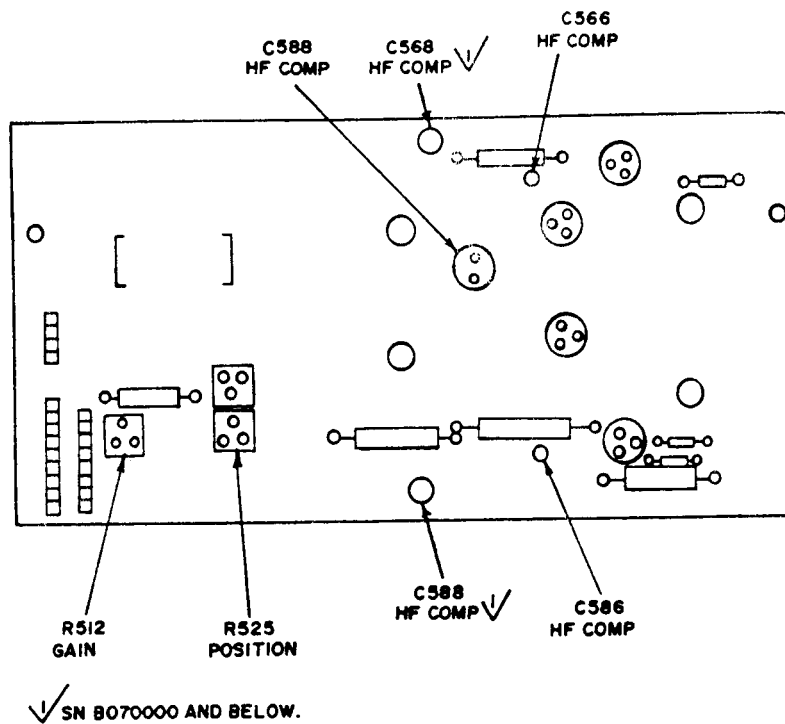

Figure 2. Board A6 horizontal amplifier adjustments - top rear view.
(1) Adjust R512 GAIN (fig. 2) for 8 divisions of deflection between the 2d and 10th vertical graticule lines (R).
(2) Adjust R525 POSITION (fig. 2) to position trace on center graticule line (R).
(1) Adjust C588 HF COMP (fig. 2), (Types 7623 and 7613/R7613, SN B070000 and above) C568 HF COMP and C588 HF COMP (7613/R7613, SN B069999 and below) for 1 marker per division (R).
(2) Adjust C566 HF COMP (fig. 2) and C586 HF COMP (Type 7623 and 7613/R7613, SN B070000 and above) for 1 marker per 2 divisions. Readjust C568 and C588 (Types 7613/R7613, SN B069999 and below) for best compromise between 5 and 10 ns (R).